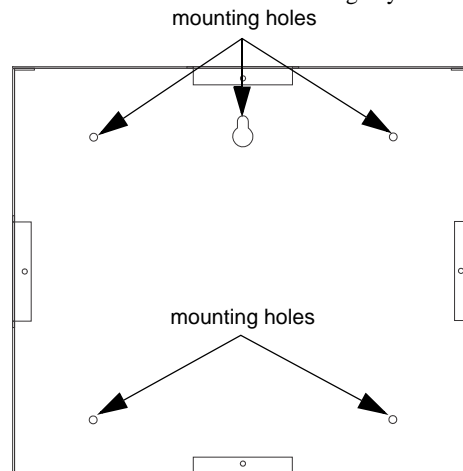

Figure 4.18 TR-RD2G/R Backbox Mounting
- Mark and pre-drill hole in the wall for the center top keyhole mounting bolt. Refer to Figure 4.18 for mounting hole locations.